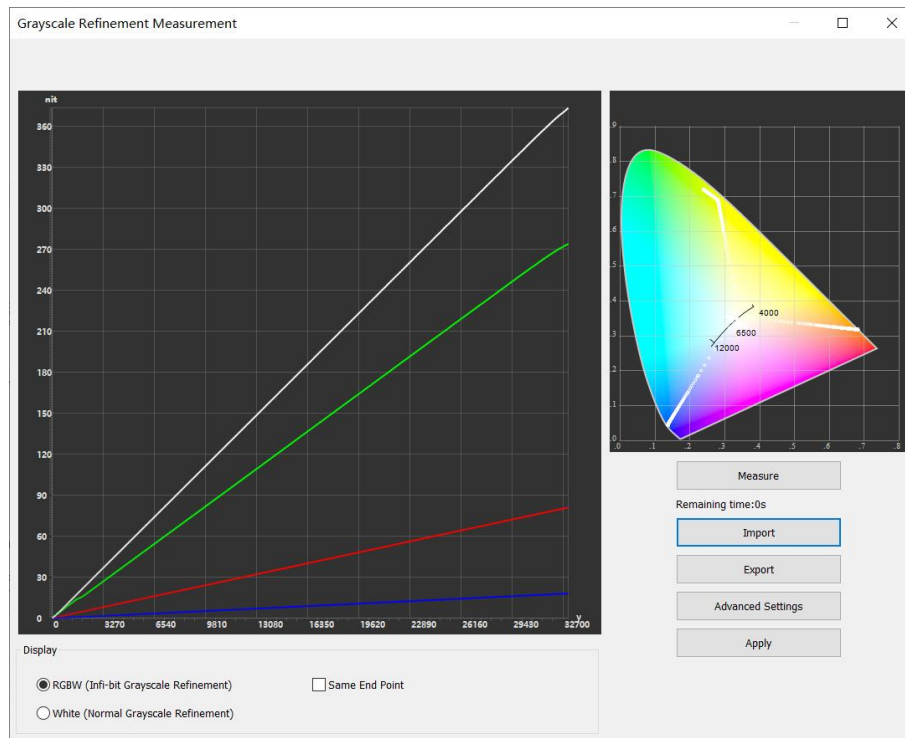

Fig 6.3.3.5 Grayscale refinement measurement
Step 3: Set the grayscale refinement measurement mode to match the grayscale mode of the gamma table. After configuring **Advanced Settings**, click the **Measure** button, then the color meter begins to measure the data, as shown in Fig 6.3.3.5.